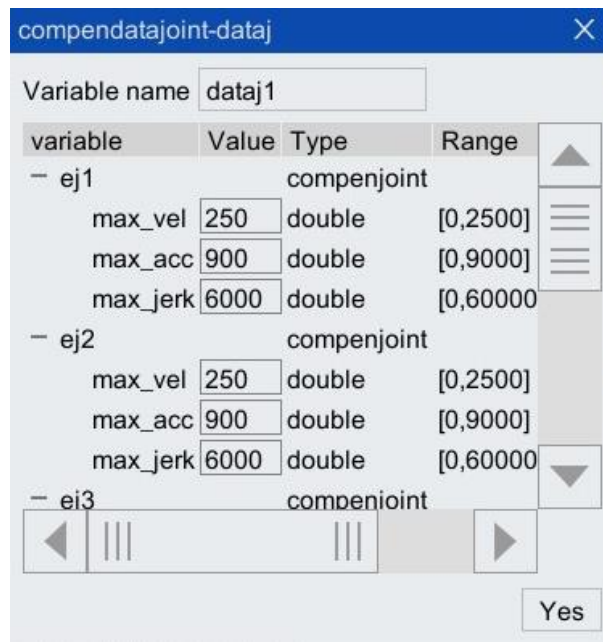

Figure 5-34 [Dataj] parameter configuration interface
Step4. Click the <...> button on the right side of dataj to pop up the parameter configuration interface of [dataj] as shown in Figure 5-34. This parameter represents the maximum speed, acceleration, and jerk of the robot for tool compensation. After setting it according to actual needs, click the <Yes> button.